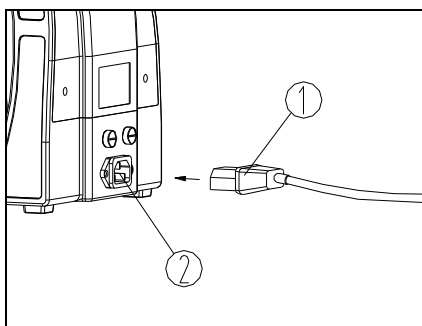

Fig. 8
2. Insert the connector ① of power cord into the power socket ②, and make sure it connects well (see Fig. 8).